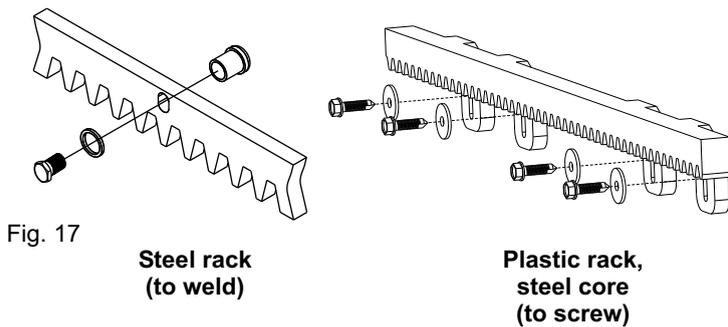

Fig. 17
- 7.2. Fix on each gear rack element the support pawls with the appropriate lock screws, make sure to put them in the upper part of the hole (Fig. 17);